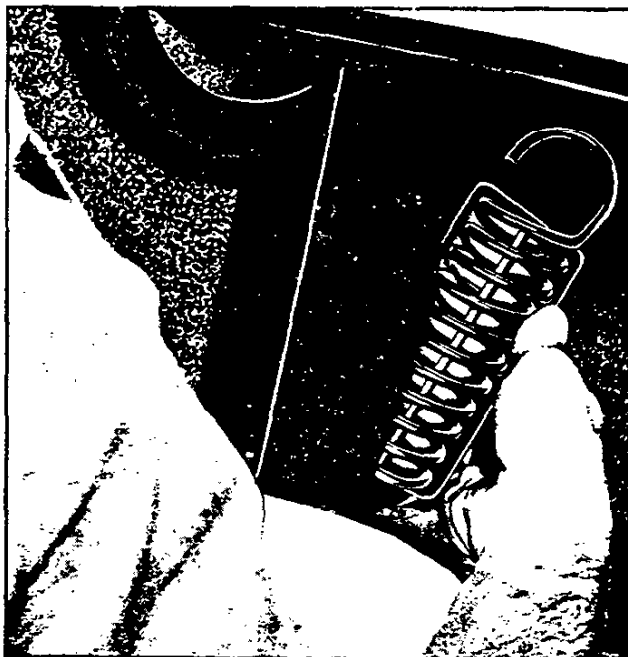

Fig. 42—Removing Hinge Spring
3. Remove spring from hinge assembly by closing top compartment lid as far as possible and inserting Tool J-9559 between expanded coils in spring. Opening top compartment lid fully allows removal of spring as shown in Figure 42.